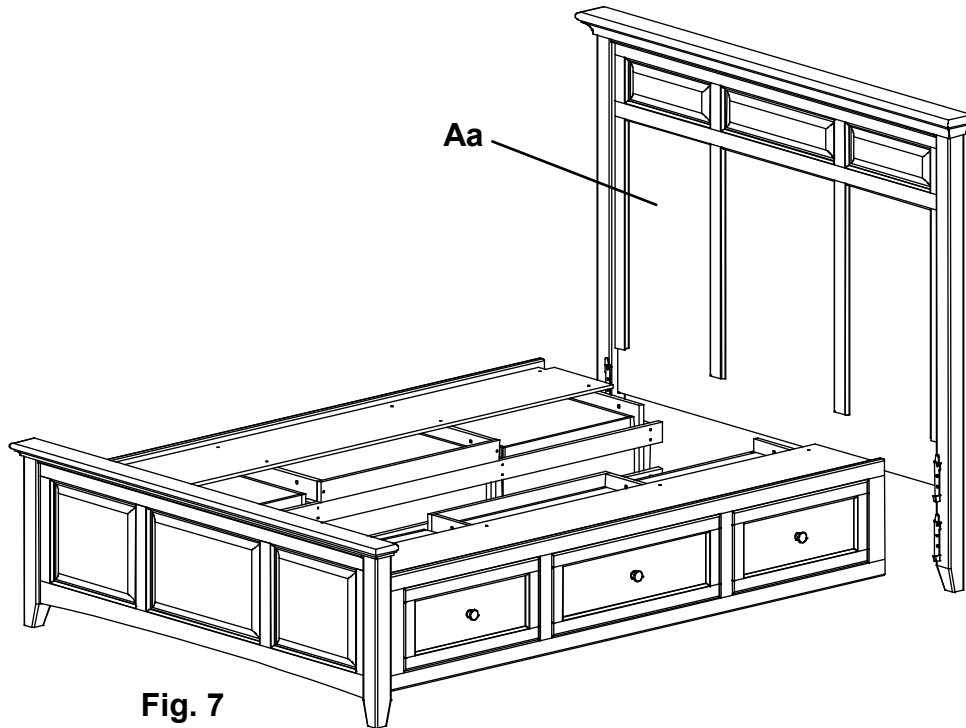

Fig. 7
7. Align the Brackets on both sides and slide the Pedestal/Footboard assembly down on to the Headboard (Aa). See Figure 7.